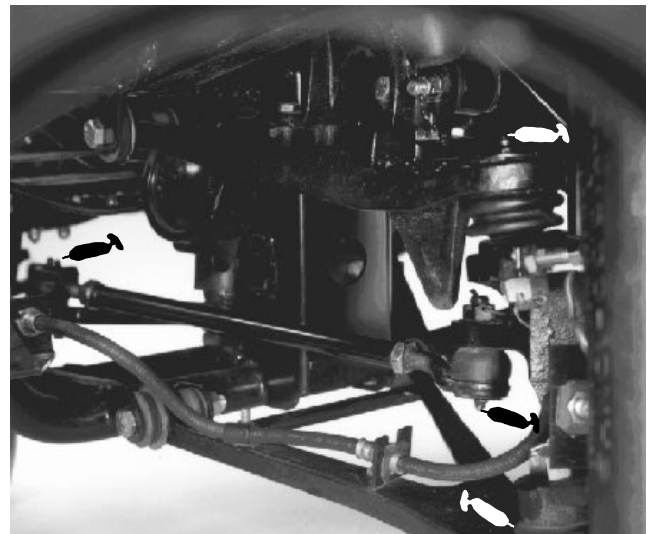

Figure 19
(Fig. 19–22)
The grease fitting locations and quantities are: Tie rod ends (4) (Fig. 19), Front ball joints (4) (Fig. 19), Rear drive shafts (18) (Fig. 21), Steering shaft (1) (Fig. 22), Front pivot bushings (2) (Fig. 20) and Pedal pivots (4) (Fig. 23).